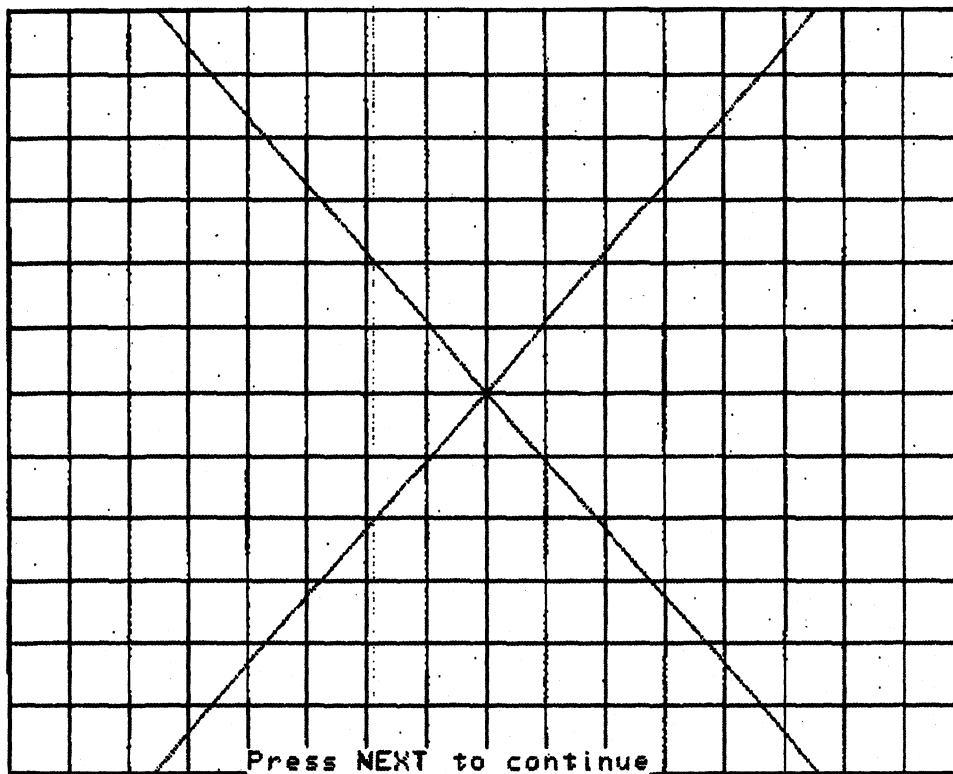

Figure 3-4. CRT Grid Pattern
10. Hold the SHIFT key down and turn power on. A grid pattern will appear on the CRT as shown in Figure 3-4.